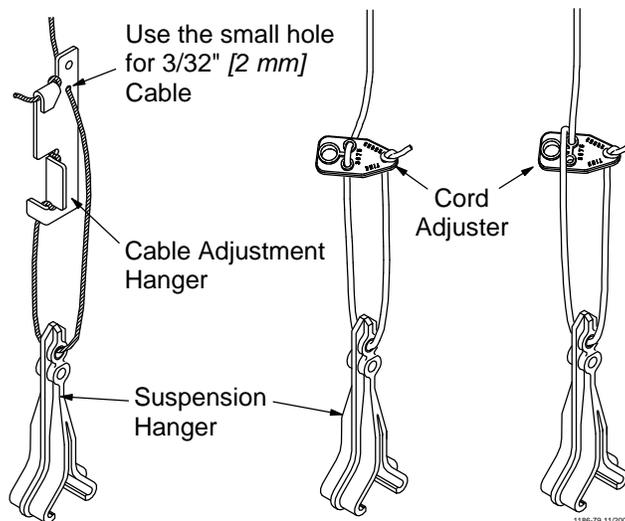

Figure 8. Cable Drop Installation
- Cable drop installations: Install an adjustment leveler on each drop line. See **Figure 8**.
Cord drop installations: Install a cord adjuster on each drop line. See **Figure 8**.
1. Route the suspension cable through the top hole of the suspension hanger and around the cable adjuster as shown in **“Figure 8.”** on page 12.